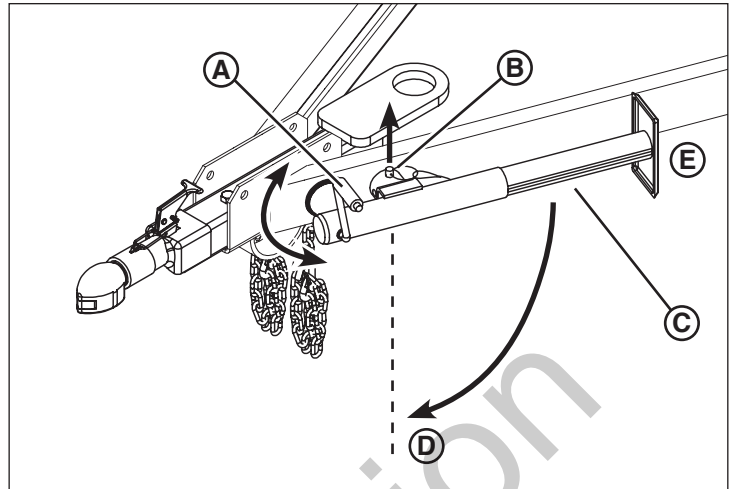

Figure 12
1. To raise the tongue, turn the handle (A, Figure 12) clockwise to extend the jack.
2. Pull the tongue jack quick release pin (B, Figure 12) from the locking hole so that the jack (C) can rotate.
- Trailer support position – vertical with support pad down (D, Figure 12).
- Transport position – horizontal with support pad rearward (E).